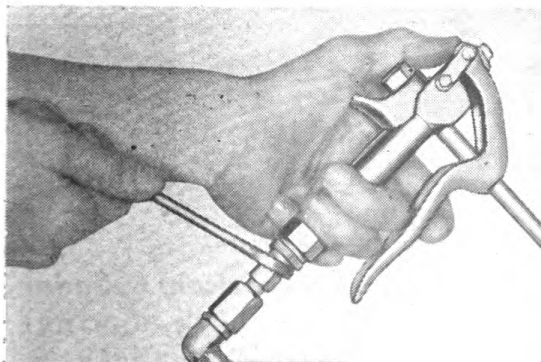

Figure 58
(2) While there is grease pressure in the hose turn the adjusting screw (See Figure 58). Turning the adjusting screw to the right cuts down the amount of the single shot delivered; turning this screw to the left increases the amount of lubricant delivered.